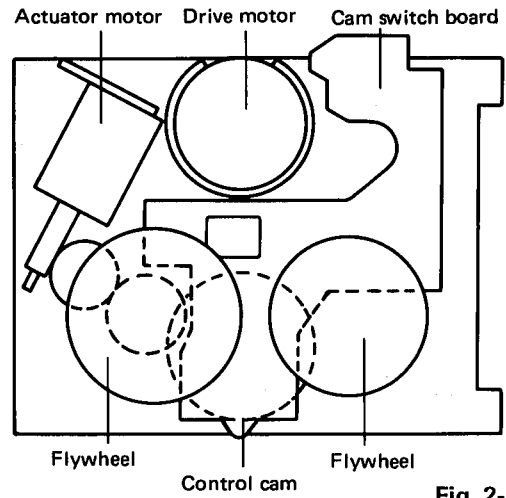
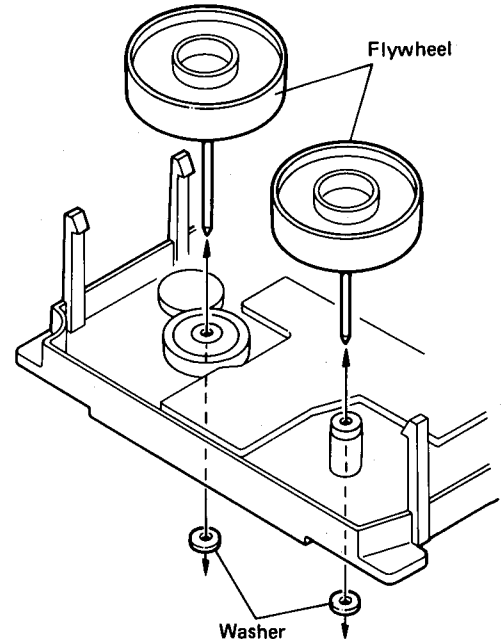
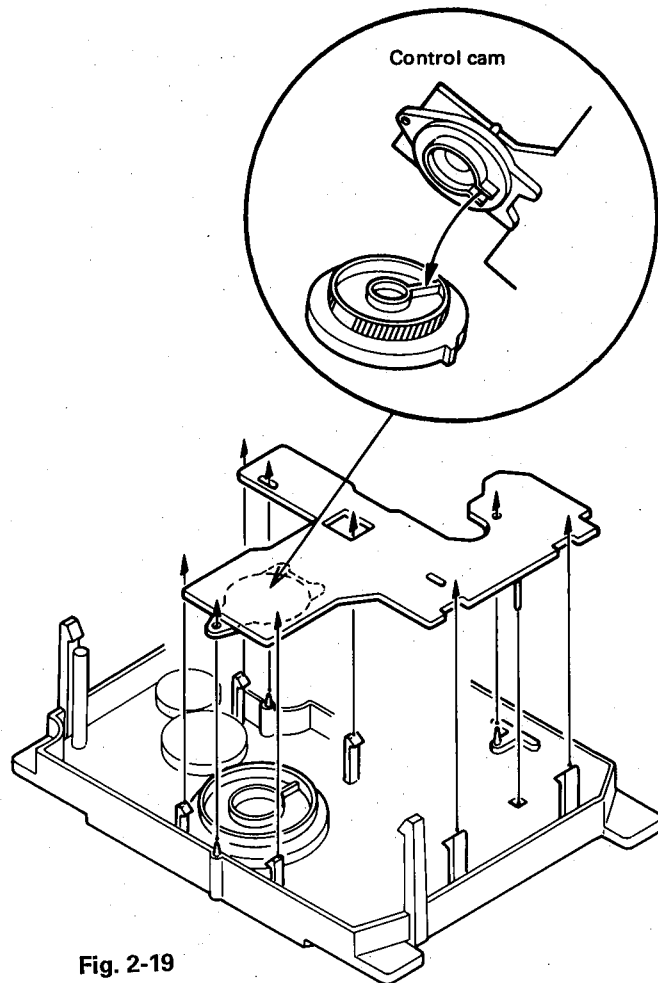
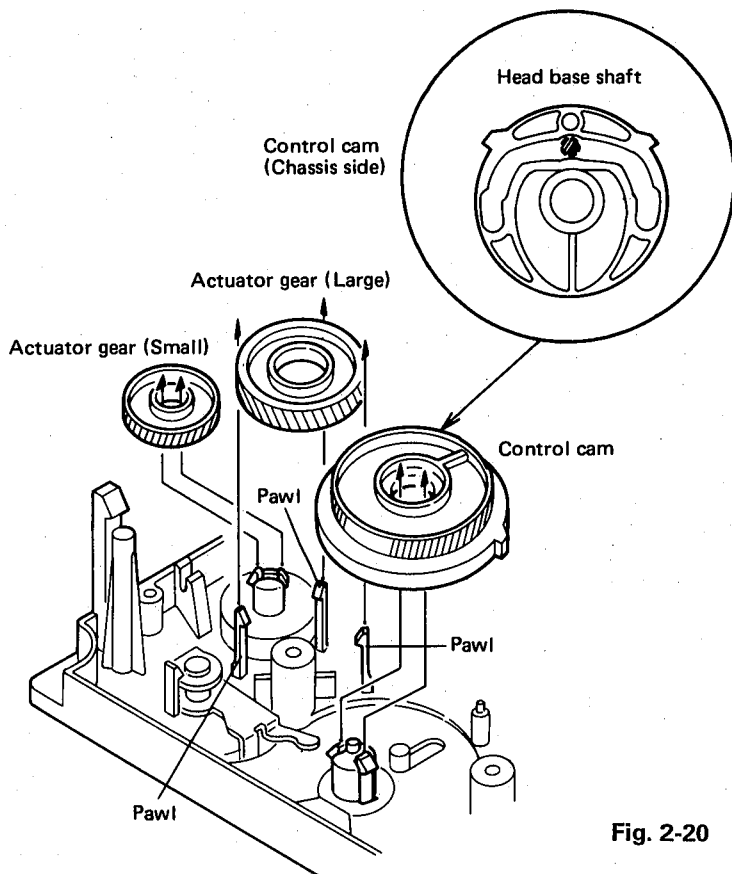

Fig. 2-16
Fig. 2-17
Fig. 2-19
Fig. 2-20
- **Flywheel assembly** (Fig. 2-16, Fig. 2-17)
- **Cam switch board** (Fig. 2-16, Fig. 2-19)
- **Actuator gear (large)** (Fig. 2-16, Fig. 2-20)
- **Control cam** (Fig. 2-16, Fig. 2-20)
- **Actuator gear (small)** (Fig. 2-16, Fig. 2-20)